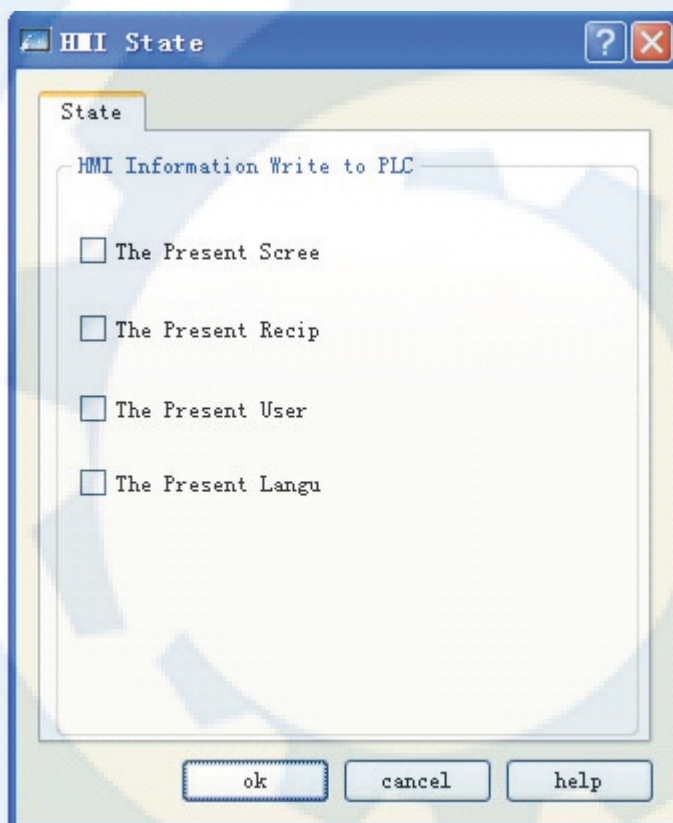

Figure 7-5 Setting of HMI status
- ◆ Double click the option “HMI Status” in “Project Manager” to pop up a dialog box as shown in figure 7-5.